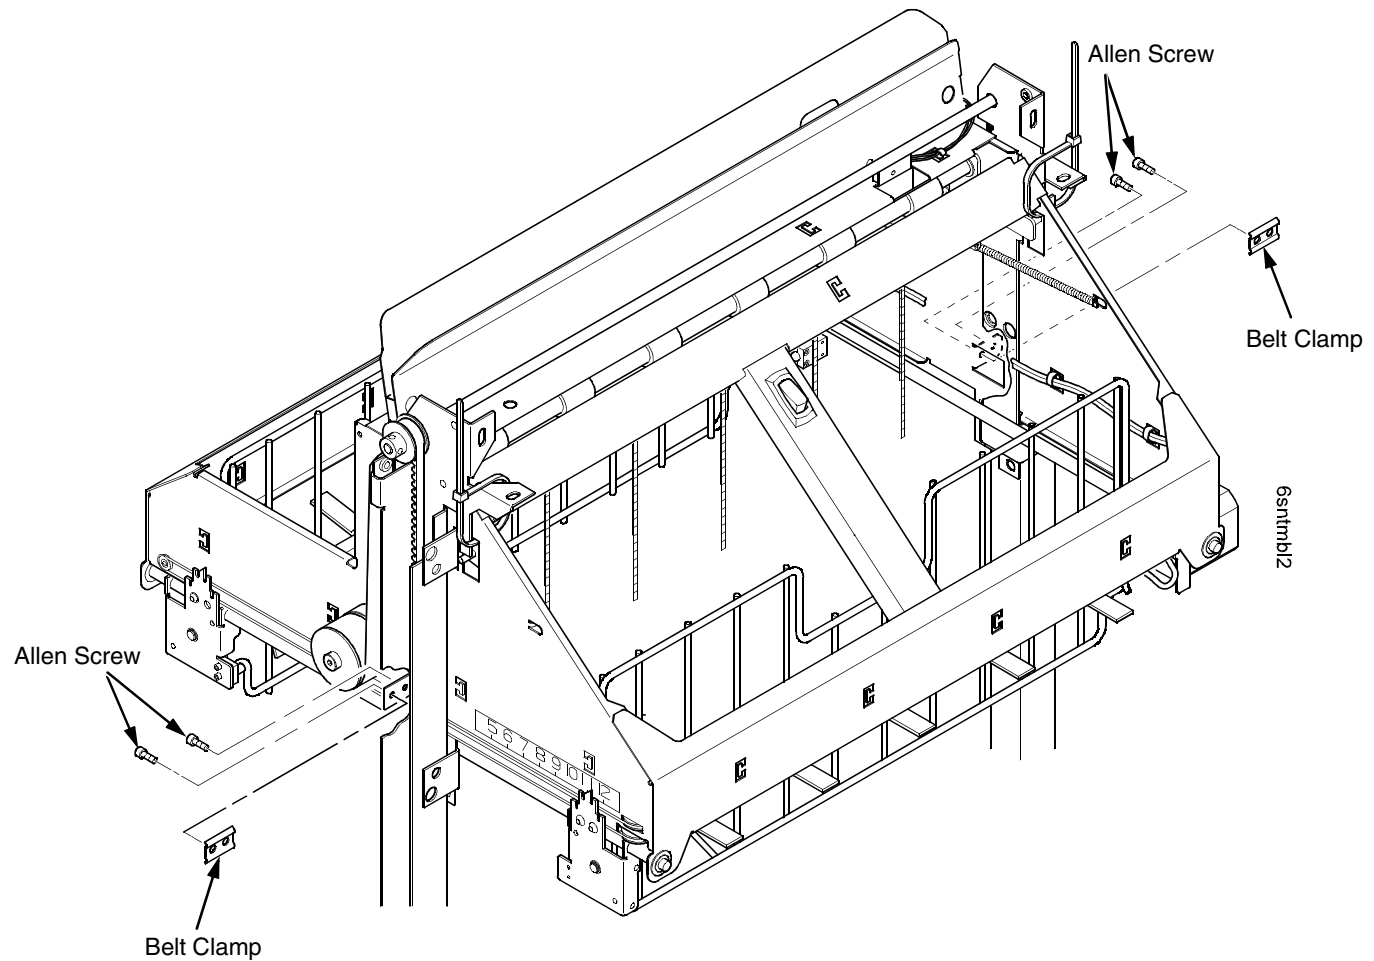

Figure 87. This figure shows how to remove the timing belt clamps.
7. Remove two Allen screws from the belt clamp that secures the timing belt to the stacker frame. (Figure 87.)